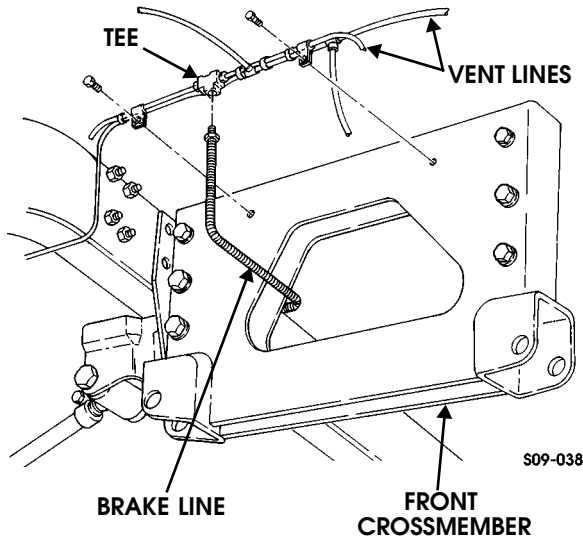

Figure 9-157: Brake Line and Vent Lines Location
5. Remove three bolts and clamps securing brake line and two vent lines to front crossmember (Figure 9-156) and (Figure 9-157).